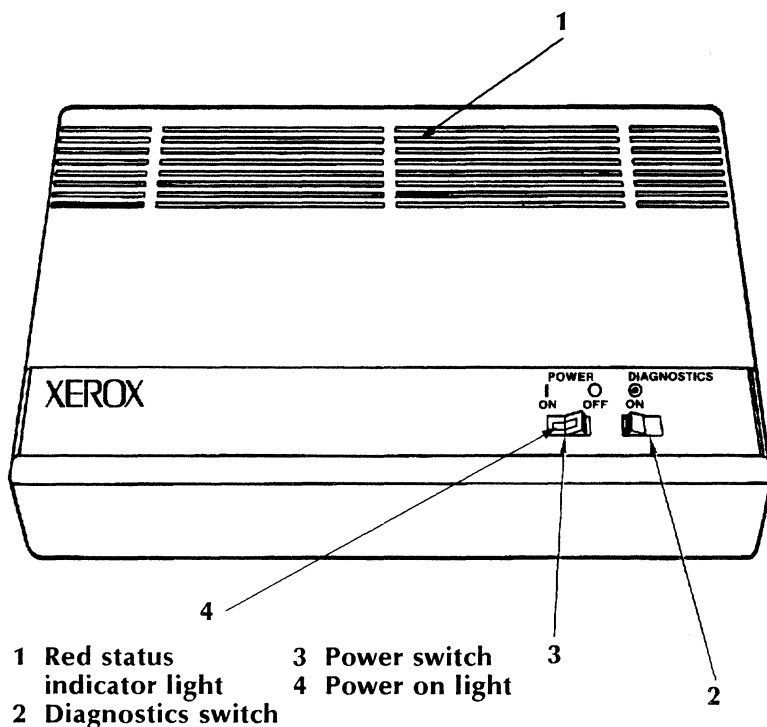

Figure 6-5 Top of 275 IC
- Turn the 275 IC on by pressing the red power ON/OFF toggle switch (located on the top of the 275 IC) to the ON position. Figure 6-5 shows the top of the 275 IC, the diagnostics switch, the power switch, and power on indicator.